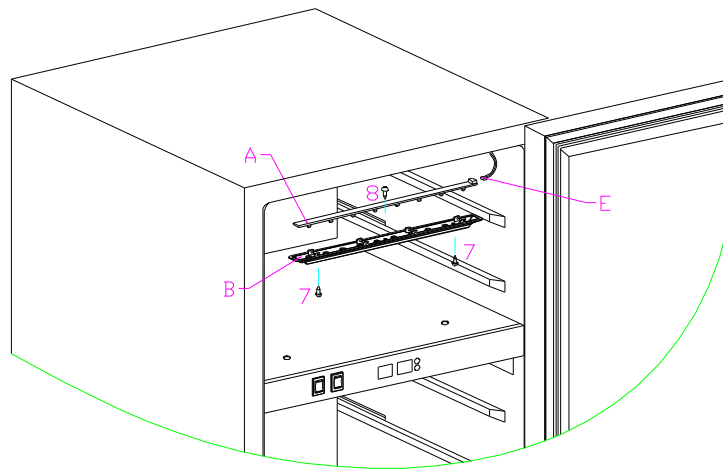

Fig. 13
1. How to replace the upper LED light (Fig.13)
- 2 >, Remove 2 fixing screws(7) of the light cover(B), take apart the cover.(Fig.13)